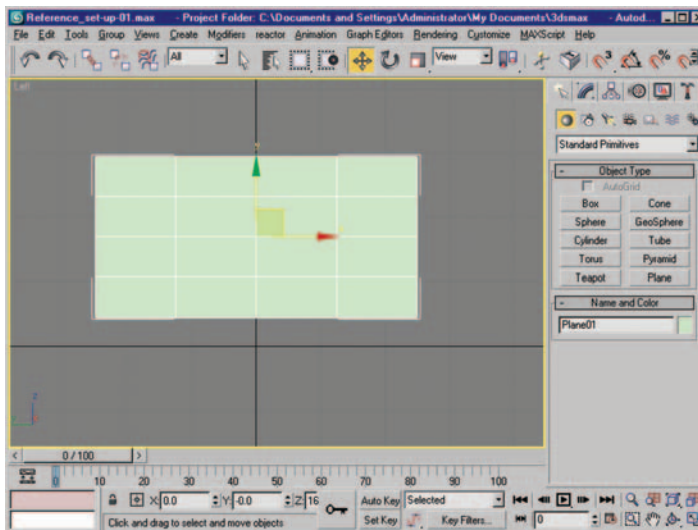

Figure 7.4 Plane object in left viewport.
1. In Max, activate the left viewport and create a rectangular plane object. By default your plane will have four segments in each direction. You can reduce the segments to 1, 1 if you wish, as this object is going to be used solely to display our blueprint. I have kept the default four segments in my example (Figure 7.4).